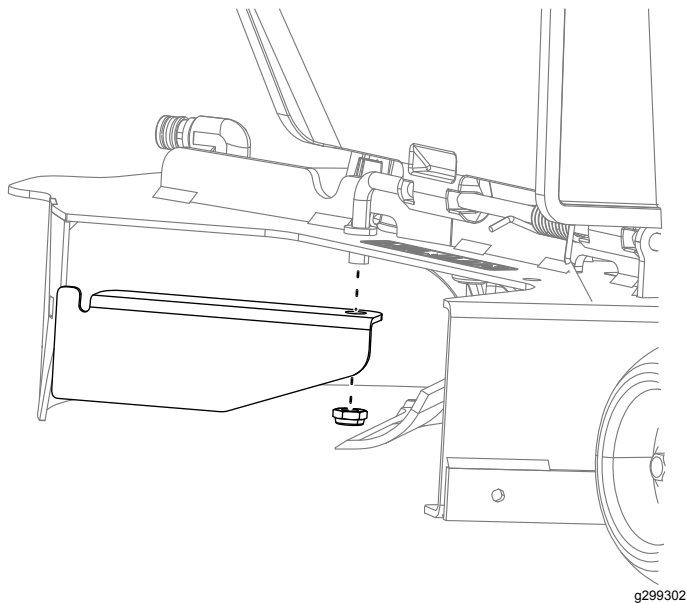

Figure 19
- Install the new small baffle to the mower deck at the same location in the mower deck as the previously removed baffle (Figure 19).